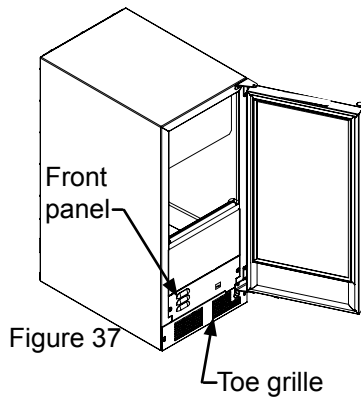

Figure 37
2. Remove the front panel and the toe grille from the front of the ice machine. See Figures 37 and 37a.